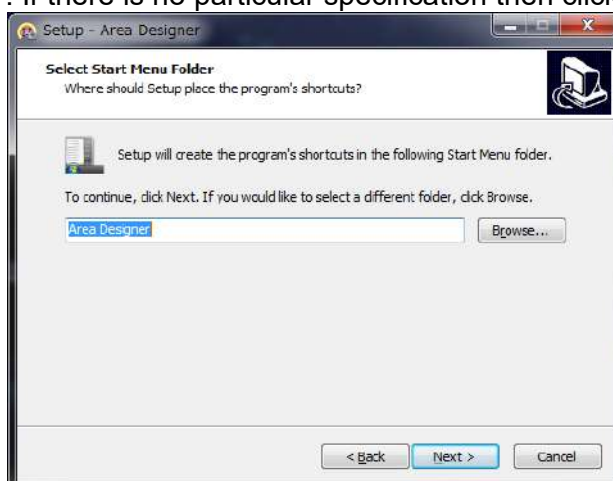

Figure 2-4 Specify the program group
6. Once you click next as shown in figure 2-4 then proceed to additional task select screen. After selecting the additional tasks you would like for this setup to perform while installing, then click next.